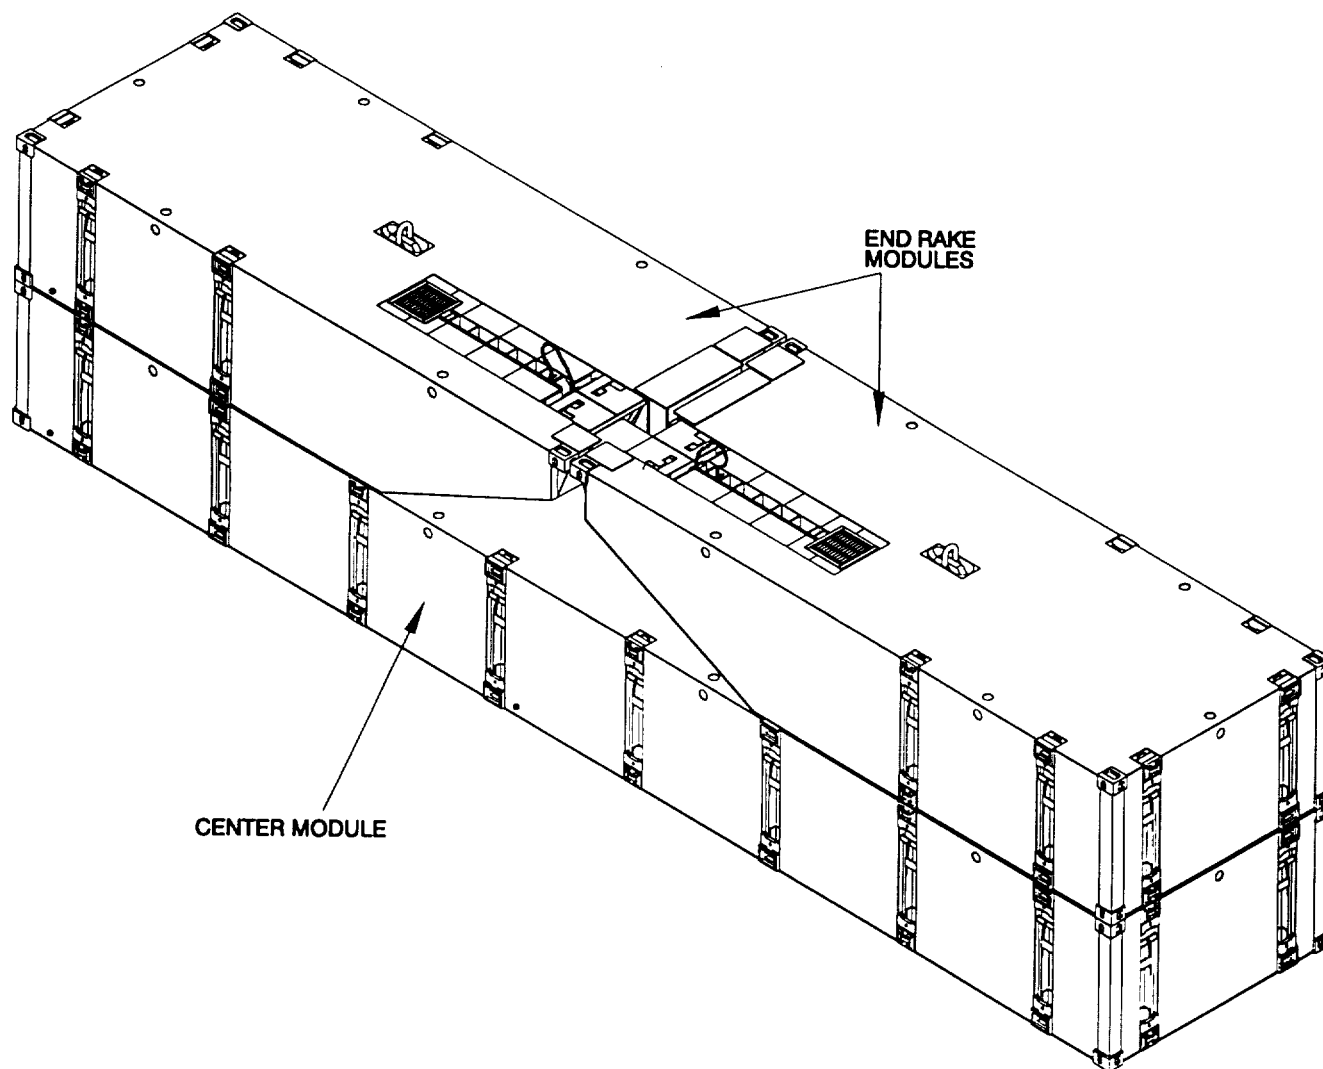

Figure 3-4. MCF ISOPAK.
**3-6 STOWAGE.** Modular Causeway Sections are transported and stowed by packaging them in ISOPAK configuration. MCF ISOPAK configuration is accomplished by stacking a pair of End Rake Modules, joined nose-to-nose, atop and connected to a Center Module unit as shown in (Figure 3-4). The weight and dimensions of the (ISOPAK assembly permit handling as a 40 foot ISO freight container). Modular MCF Sections have a high stow factor; one MCF section is stowable and transportable as three 40-foot long, 9-foot high ISOPAKs weighing approximately 45,500 pounds each. It can be efficiently: